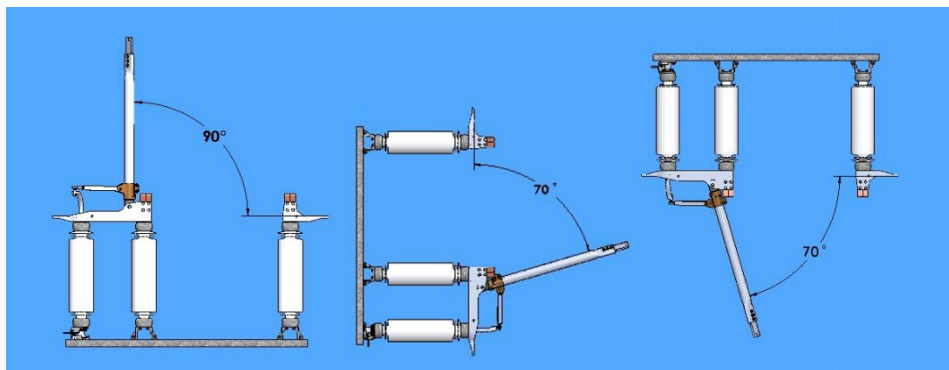
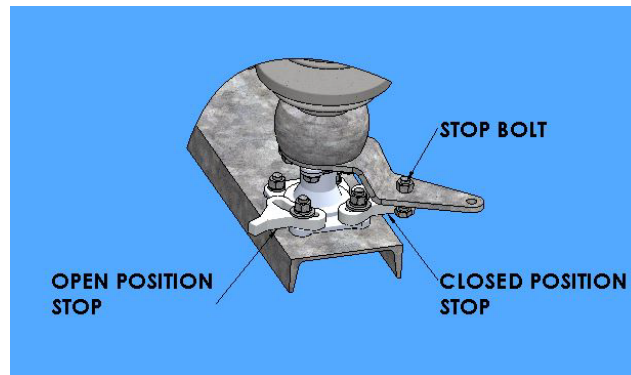

Figure 9: Proper Mounting Positions
Figure 10: Open Position Blade Stop
- 4.6. Conventional blade open positions are shown in **Figure 9**. The EV-H switch will be shipped with one of these blade open angles unless another angle is specified. Slight changes to the blade fully open angles can be made in the field. Adjust the open position stop bolt on the bearing assembly shown in **Figure 10** as necessary.